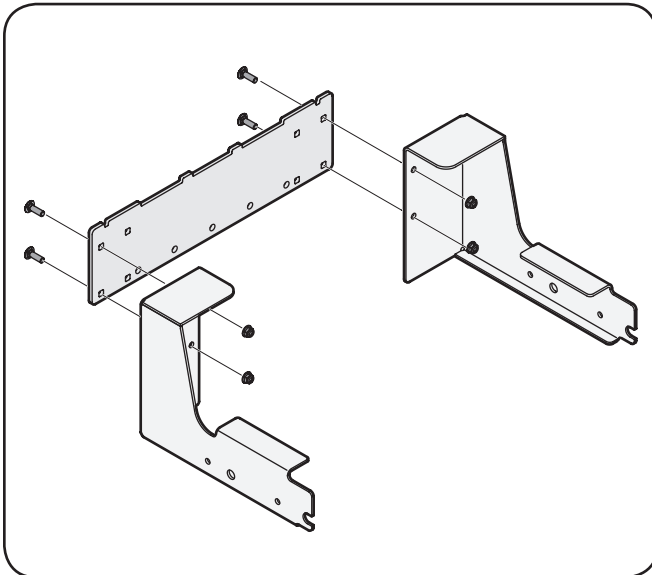

Figure 5-1
To assemble the bagger mounting assembly, locate the mounting assembly parts, as shown in Figure 5-1, and follow these steps:
1. Attach the two hitch side brackets to the rear attachment bracket using four 710-0276 carriage bolts and 712-04063 flange lock nuts from hardware pack 689-00320. See Figure 5-1.